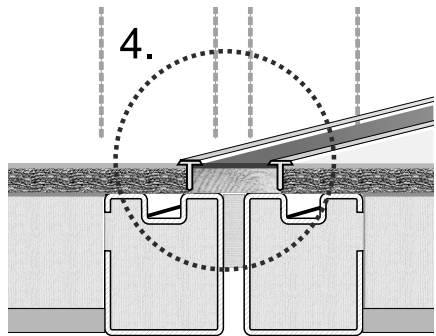

Figure 8 Module joint – floor, variants
- a) floor board to the edge of the frame, sheet metal L strip is inserted under the floor board. Grey rubber sealing is to be placed in the formed joint before tightening bolts are tightened (fig. 8).
- b) floor board terminated 20 mm from the edge of the frame or further. Insulation is to be placed in the joint formed in this way and a strip of cetris (chipboard) board is to be placed and screwed between the floor boards. This joint is to be covered with a putty and ground to be smooth (fig. 8). Then the joint may be covered with PVC, tiling, carpet, etc.